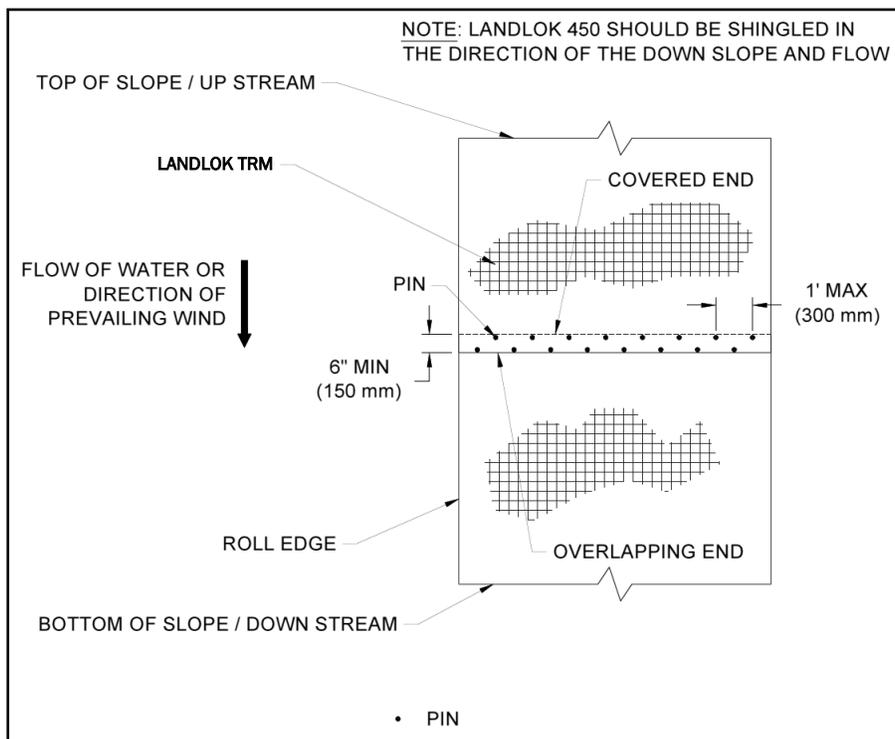

**Figure 12: Example Pin Pattern**
7. Secure LANDLOK panels in place using pins across the channel surface according to the project's engineered design. Pin placement should reflect a staggered checkerboard pattern across the channel surface for best results (Figure 12 and Figure 13).